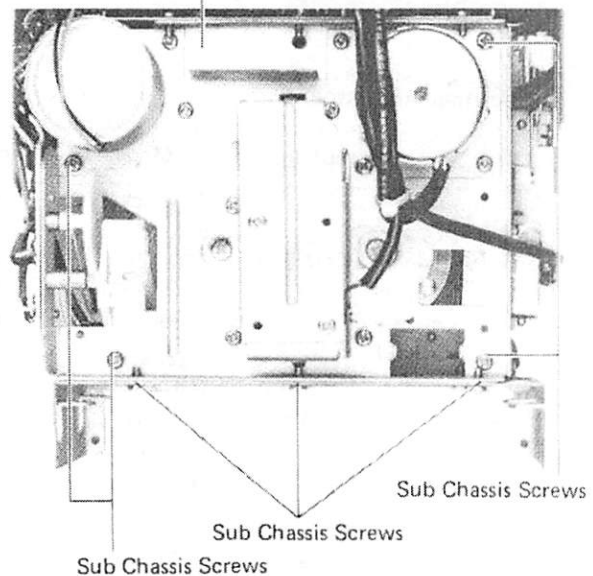

Figure 19
- (2) Remove seven screws from the sub chassis as shown in Figure 19.
- (3) The sub chassis can be completely removed from the cassette chassis, and then remove the motor belt and sub belt.